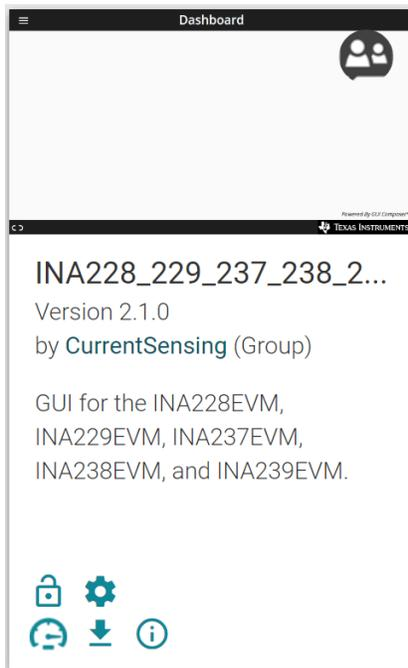

Figure 4-4. GUI Composer Application
3. Open the *GUI Composer* application to launch the GUI from the web browser (see Figure 4-4).
- 4. To download the GUI for offline use, click the  icon in the *GUI Composer* application and follow the prompts (see Figure 4-4).